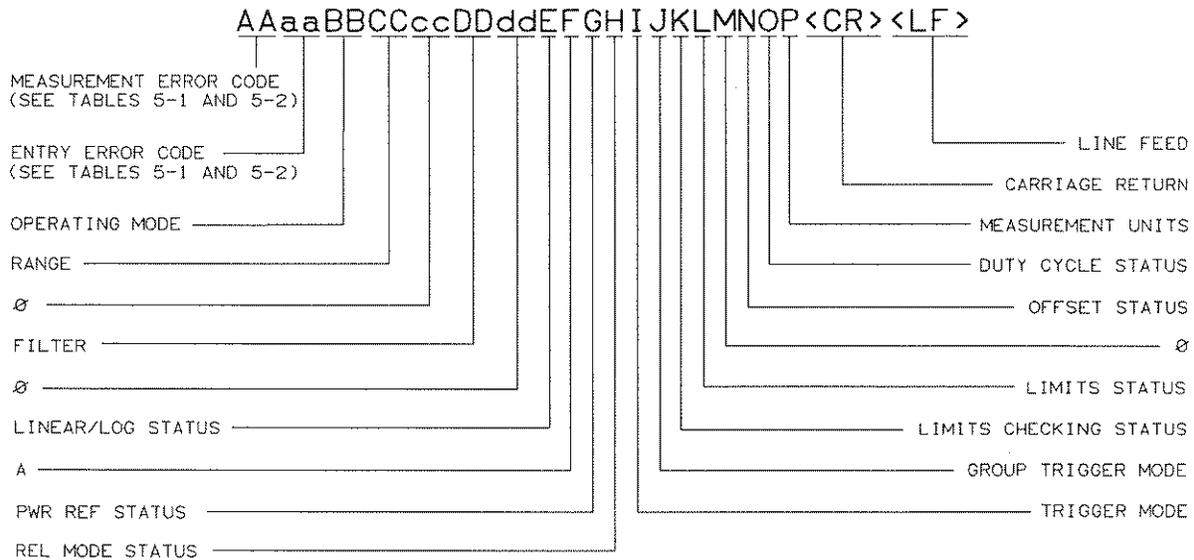

Figure 7-2. Status Message Format
Status Message. This function enables the Power Meter’s current state to be read under program control. After receiving an SM program code (Status Message) and when addressed to talk, the Power Meter sends a string of 26 ASCII characters followed by a carriage return (CR) and a line feed (LF). With the last byte of the string, the Power Meter sets the EOI line true. The Status Message is updated only after a measurement. The Status Message can be interpreted with the information shown in Figure 7-2 and Table 7-2.